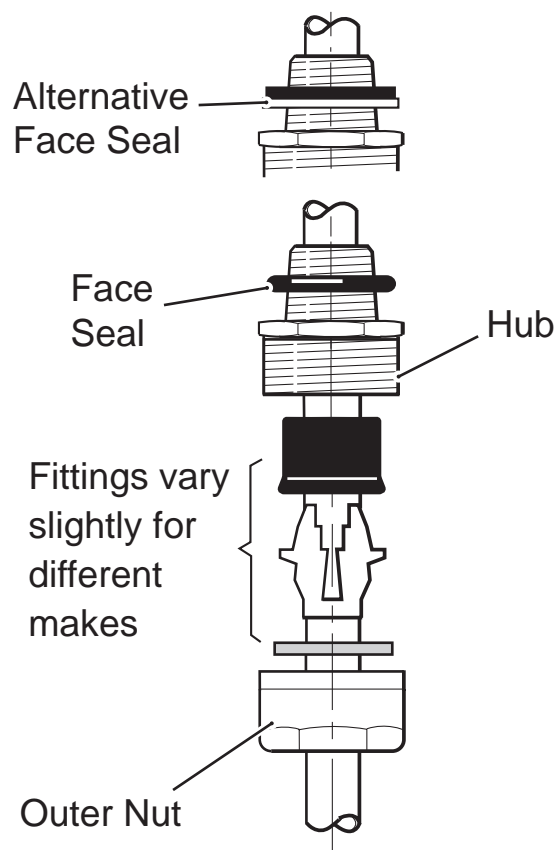

Fig. 5.7 Cable Glands (Not Supplied)
5.3.3 Cable Glands (N. American – 0.5 in.) – Fig. 5.7